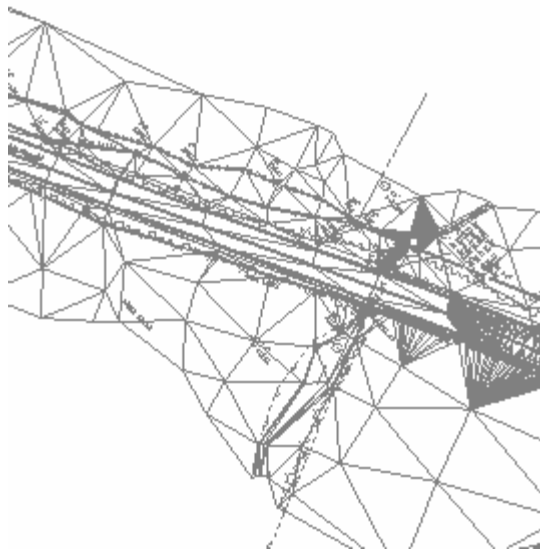

Figure 2-4 MicroStation View of InRoads Generated Triangles
- G. In the View Triangles Box for Surface: select existing. Then click the **Apply** button. In Figure 2-4, notice the triangles surrounding the roadway.